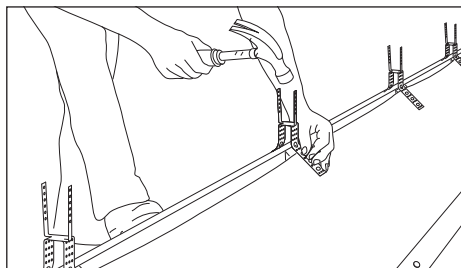

Fig. 1
- 1 Lay the roof underlay and battens in the normal manner leaving a minimum 5mm continuous gap in underlay at roof apex (refer to BS 5250 recommendations for specific advice) (Fig. 1).